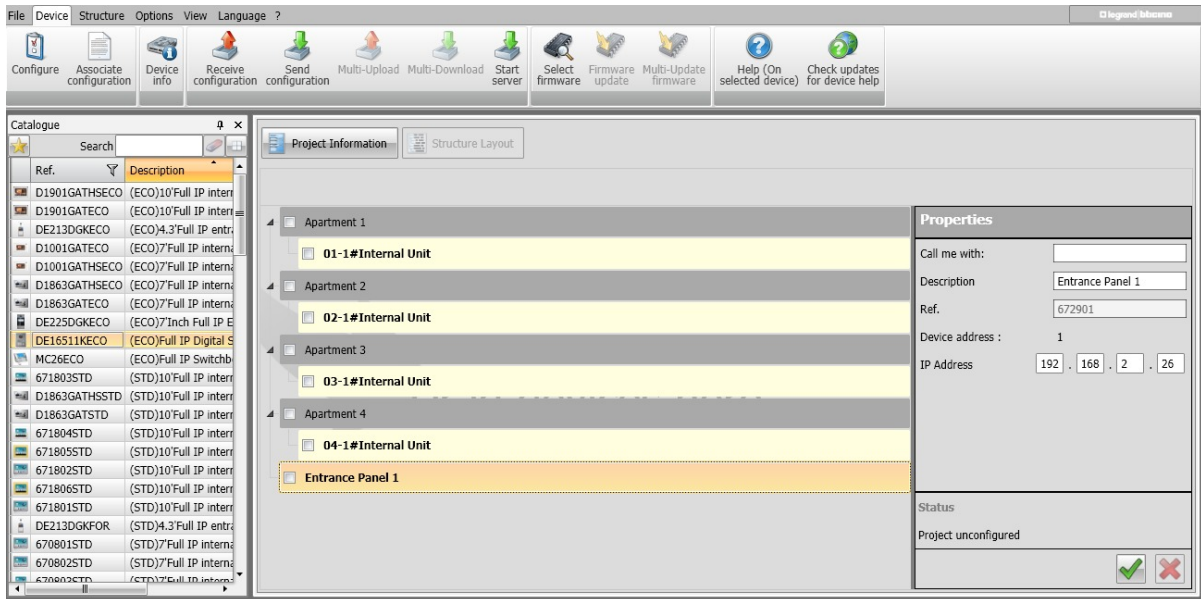

Figure 2.5
- Choose Entrance Panel section then You will see Properties Tab (Figure 2.5)